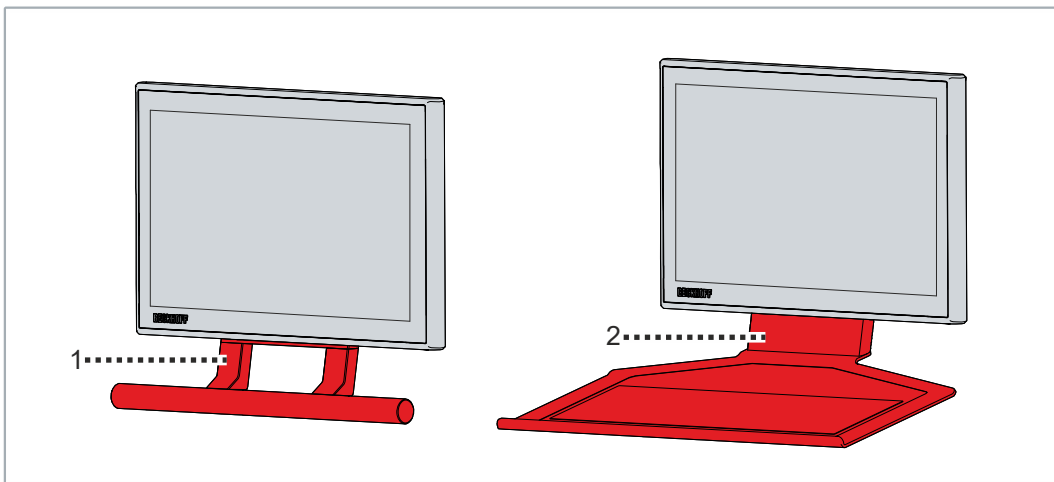

Fig. 31: Handle and toolboard
The handle (1) and the toolboard (2) are mounted on the underside of the panel PC using three M5 screws. Three M5 threaded holes are provided for this purpose (see Fig. 31).